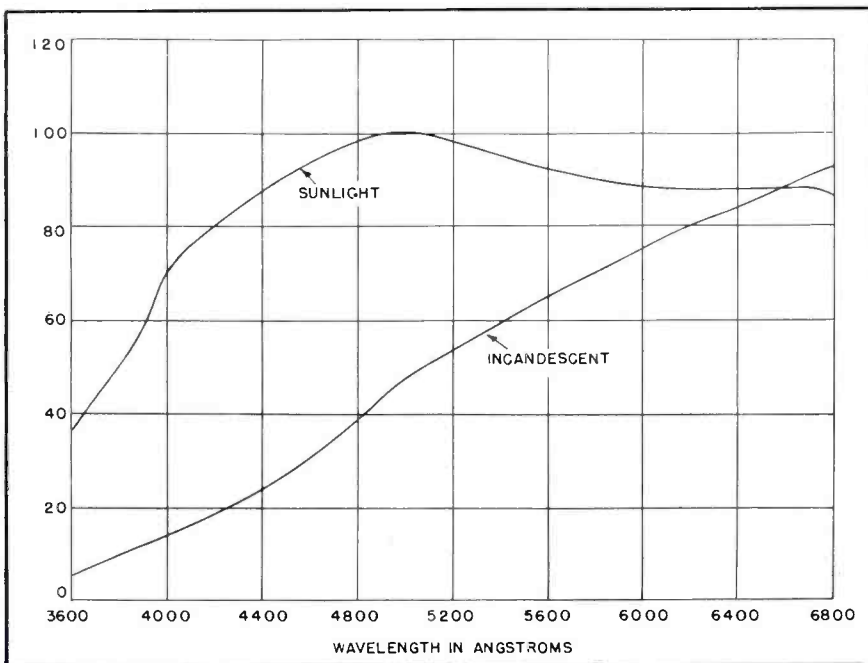
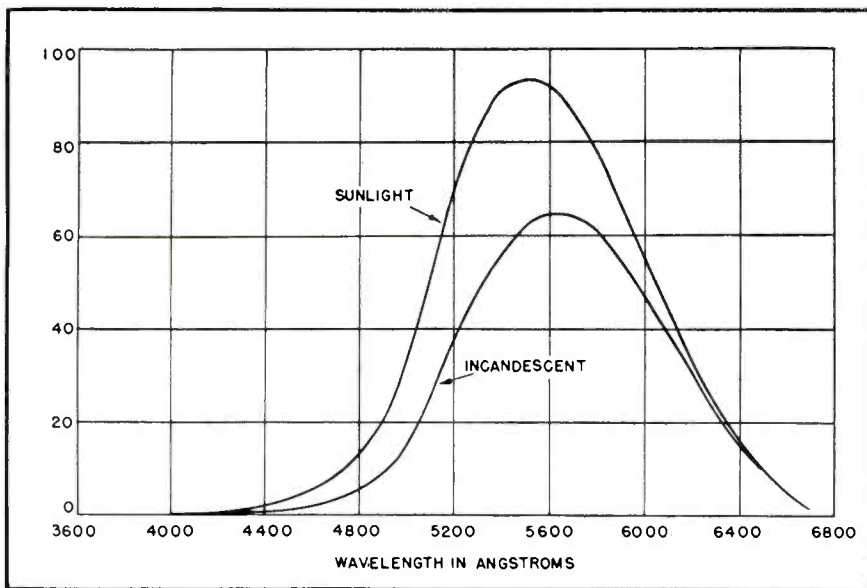

Figure 2
Figure 3
Typical curves for sunlight and incandescent lighting appear in Figure 2; these curves after having been multiplied by the eye sensitivity curve assume the form shown in Figure 3.
Thus, Figure 3 represents the left-hand side of equation (3) and the
solid lines in Figure 4, the right-hand side. When the curves are most nearly similar, appearances will be most realistic. The incandescent curve from Figure 3 has been included in Figure 4 as a dotted line, and it will be seen that its resemblance to the 5820-warm-tone curve is quite close. If it is necessary to filter out most of the radiation below 4800, it will be noted that less energy will be lost in filtering this tone type of lighting than other colors.
If the reactance $X = 4.47$, and the series resistance is required to produce the impedance $|Z| = 6$, the Figure 2(d) procedure can be followed.
Often we have the condition where $R = 3$ and reactance $X = 4$ (Figure 2(e) are connected in parallel, and we'd like to find the joint impedance. The corresponding equation is $Z = RX / \sqrt{R^2 + X^2}$ or $|Z| = (3 \times 4) / \sqrt{3^2 + 4^2}$. This equation can be solved in three steps. First, $\sqrt{R^2 + X^2}$ must be found and we have $\sqrt{3^2 + 4^2} = 5$, as in first example. Then $3 \times 4 = 12$ is found in the second step, and in the third and final step the answer, $|Z| = 12/5 = 2.4$ is obtained.
The problems of parallel resistors or series capacitors, where the equations are, for joint resistance, $R = R_1 R_2 / (R_1 + R_2)$ and for joint capacity, $C = C_1 C_2 / (C_1 + C_2)$ are quite interesting, too. Let us take one, where $R_1 = 4$ and $R_2 = 5$. Then $R = 4 \times 5 / (4 + 5)$, or $5 / (1 + 5/4)$. Two steps are involved in this solution as indicated in Figure 2(f): $5/4 = 1.25$, and $5 / (1 + 1.25)$, or $5/2.25 = 2.22 = R$.